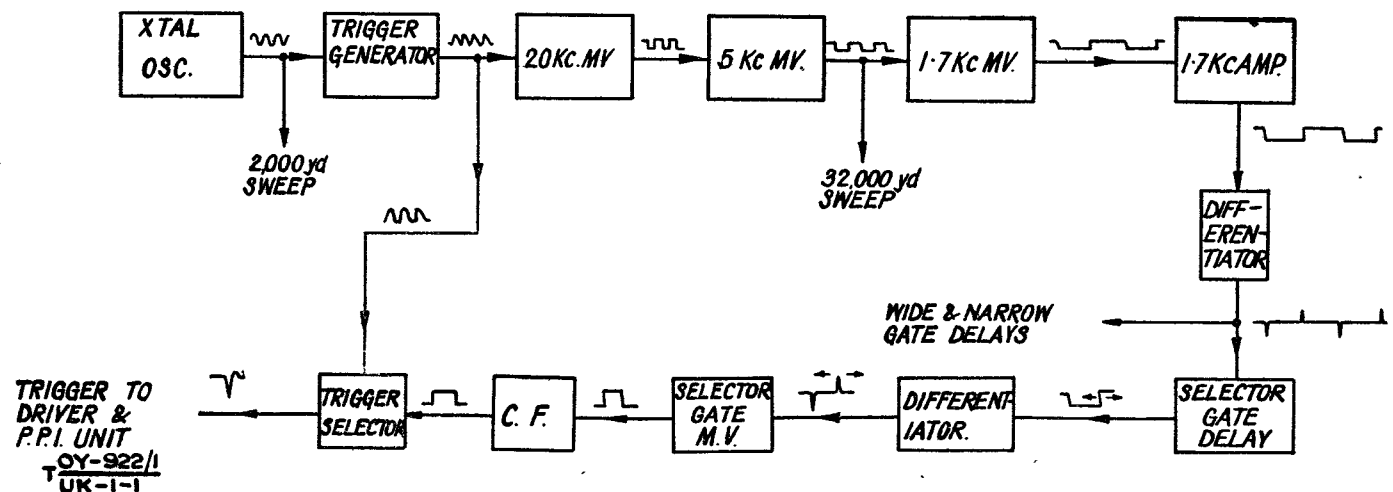

Fig. 1. Simplification of Fig. 1008, showing method of obtaining the trigger pulse for the whole system
16. A block diagram of this unit is shown in Fig. 1008 and circuit diagrams are shown in Figs. 1009 and 1010. A simplified block diagram is also shown in Fig. 1.
32. V-611 (a 6SN7 type double-triode) delays the start of the selector gate until the desired instant. The square wave output of V-606 is applied to grid No. 1 of V-611 through the differentiating network of C-651 and R-671. This results in a series of positive and negative peaked pulses applied to the grid of the first half of the valve. (See Fig. 1.)